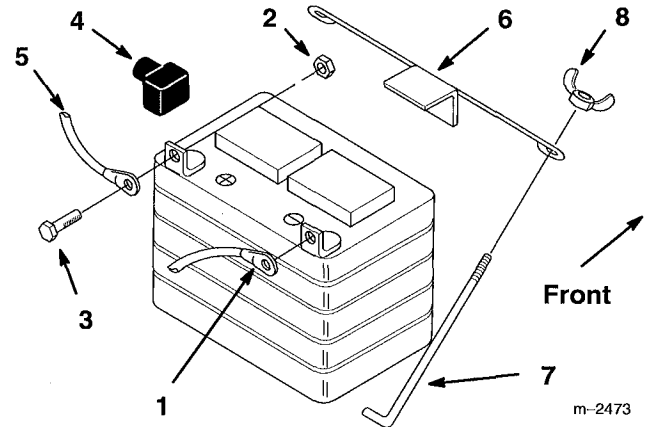

Figure 32
3. Disconnect the negative (black) ground cable from the battery post (Fig. 32).
4. Lift the rubber cover up on the positive cable. Disconnect the positive (red cover) cable from the battery post (Fig. 32).
5. Remove the battery hold down rods (Fig. 32). Lift battery from tractor
6. Install the battery into the chassis (Fig. 32).
7. Secure battery in chassis with hold down rods and wing nuts (Fig. 32).
8. Using the bolt and locknut, connect the positive (red cover) cable to the positive (+) battery post (Fig. 32). Slide the rubber cover over the battery post.
9. Using the bolt and locknut, connect the negative (black) cable to the negative (-) battery post (Fig. 32).